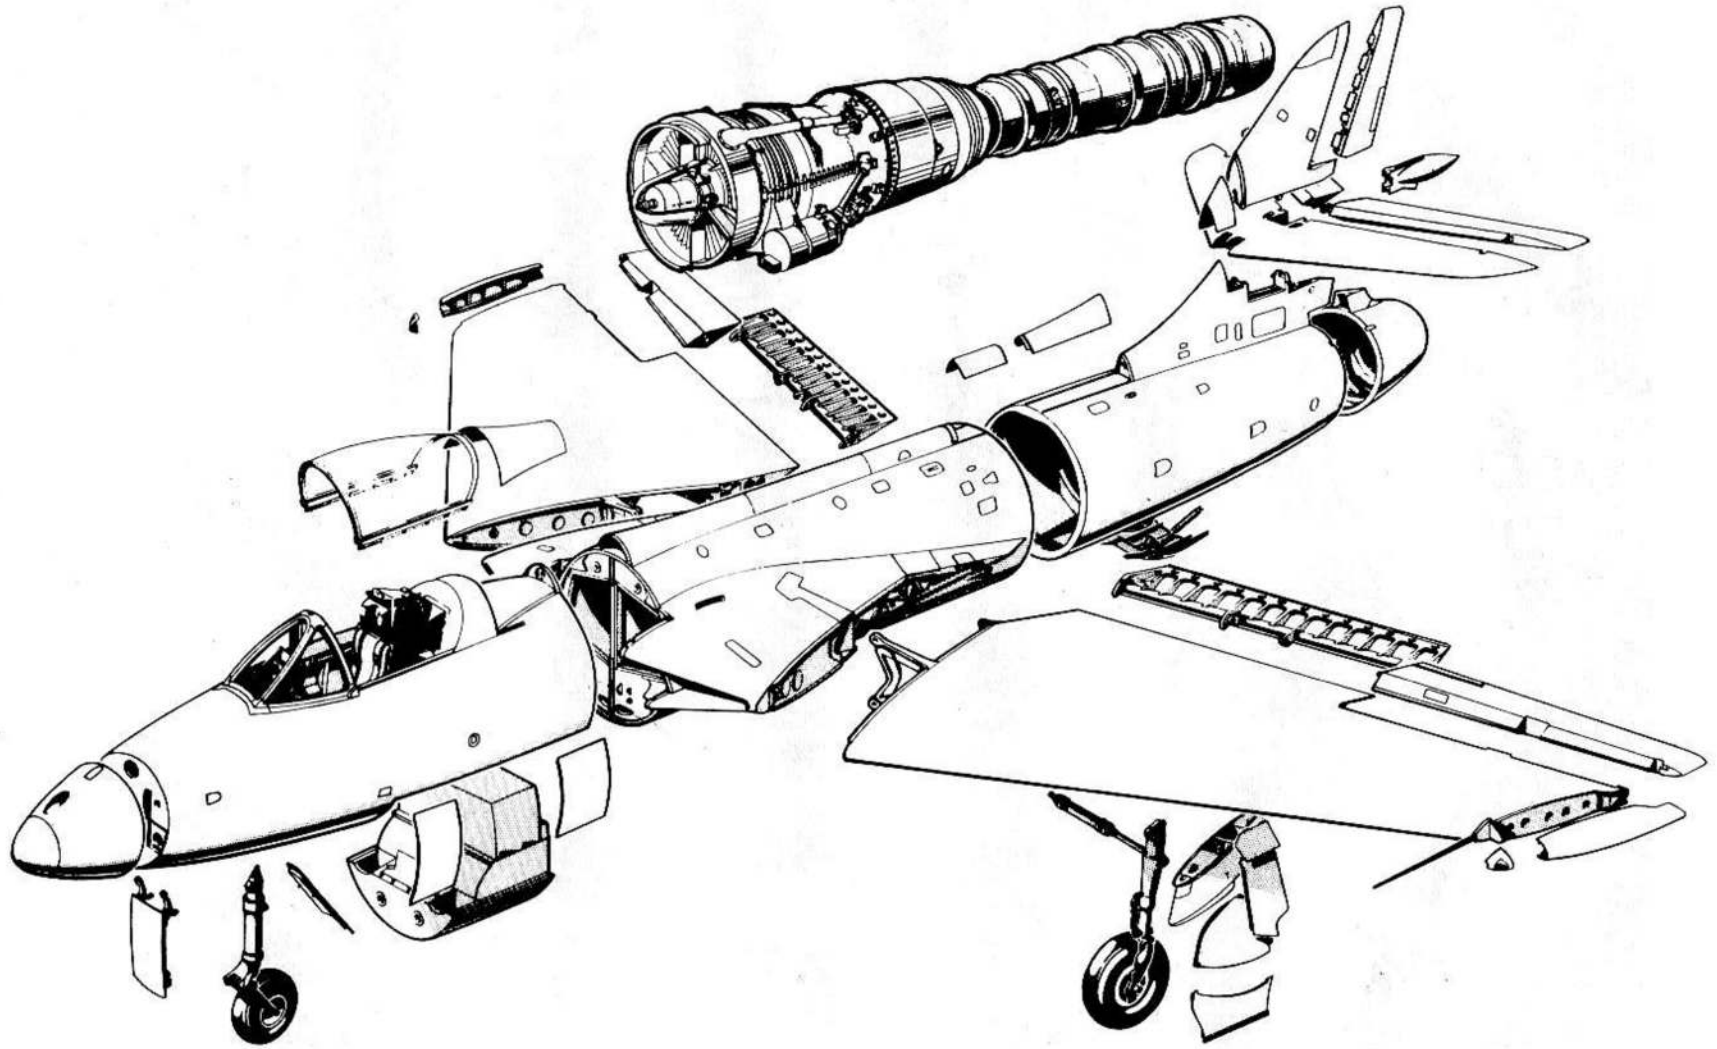

FIG. 1 MAJOR COMPONENTS
4. The breakdown points for dismantling the aircraft are shown in fig.1, together with the dimensions and weights of the principal components. The recommended order of dismantling is as follows:-
TABLE 3 Packing dimensions (Refer to Fig.1)
TABLE 3 Packing dimensions (Refer to Fig.1) - contd.